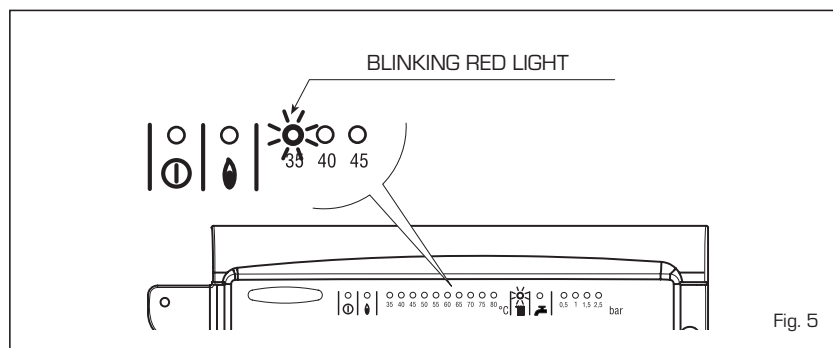

Fig. 5
- **Safety/exhaust thermostat triggered** (fig. 5)